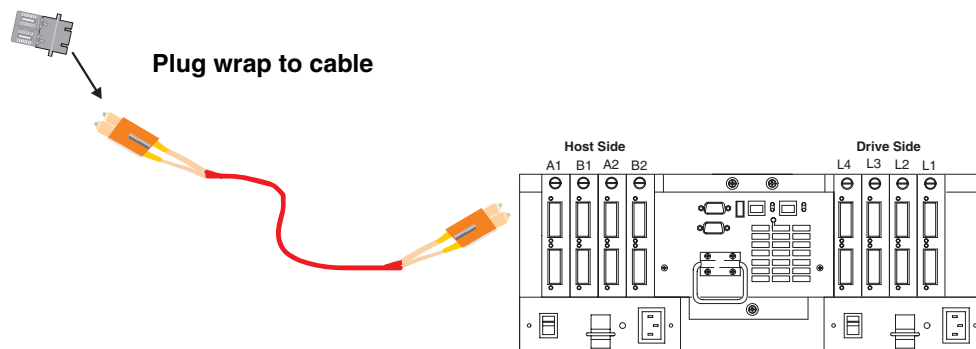

Figure 131. Install wrap plug
3. Insert the wrap plug from your kit into the female-to-female converter. See Figure 131.